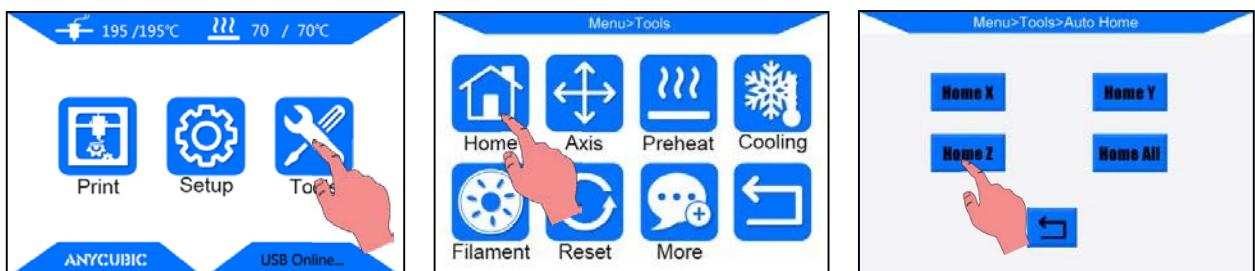

Figure 7
Step 2. As shown in Fig.7, on Home Menu, click “Tools”-->“Home”-->“Home Z”. **Lock the Z axis to prevent the Z axis from falling during leveling.**